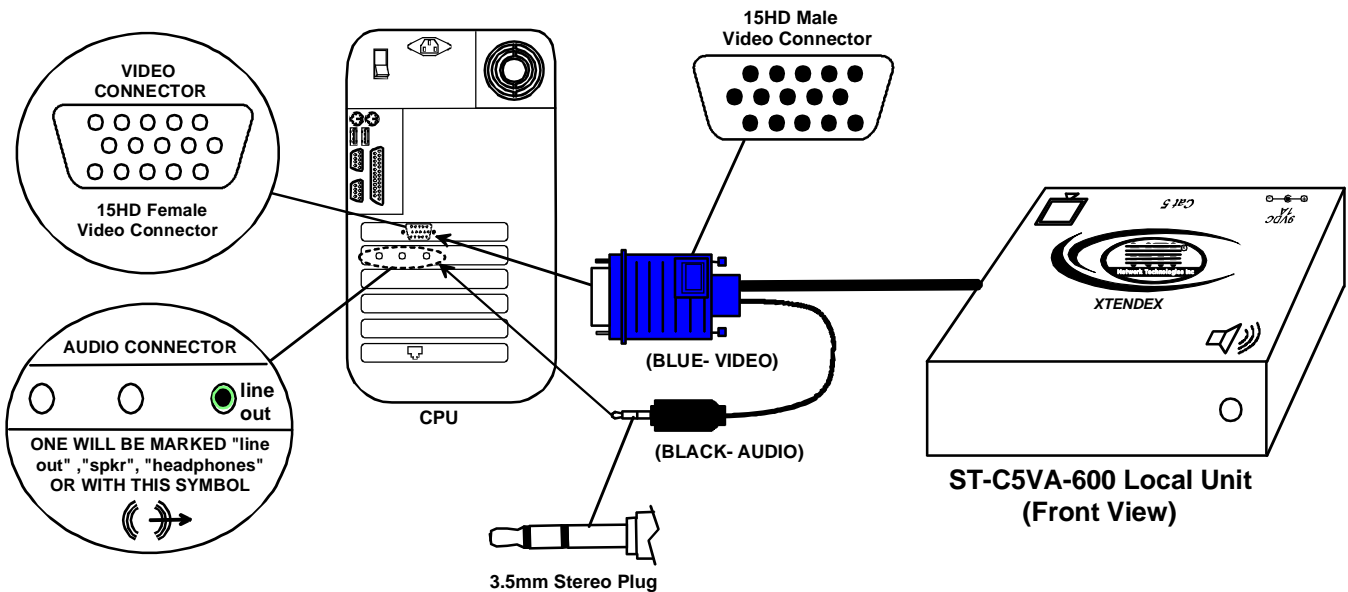

Figure 1- Connect the Local Unit to the CPU
- Plug the cables of the Local Unit into the back of the CPU. (See Fig. 1.)